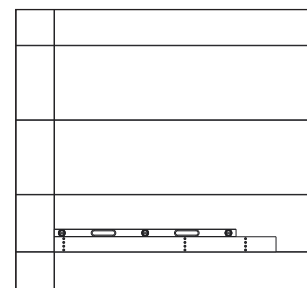

Figure 7: Place Tube
- Place the marked-up bottom tube on the wall so the bottom horizontal line aligns with the bottom of the tube, the vertical line aligns with its respective edge, and "TL" is in the top-left corner. Refer to **Figure 7**. Use a level (digital is recommended) to fine-tune the tube position, which has a ±1/4" tolerance in all directions.